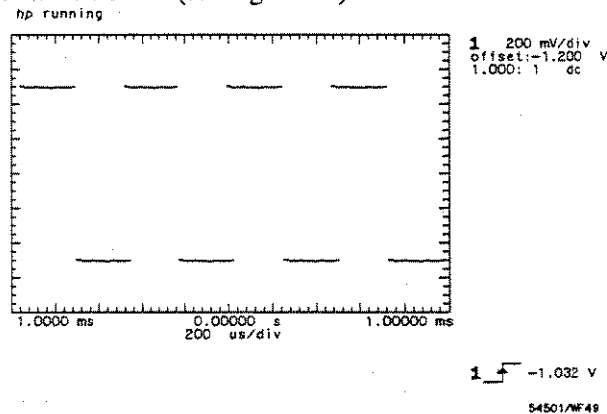

Figure 4-2. Input Signal for Window Viewing
- Press **AUTOSCALE** (see Figure 4-2).